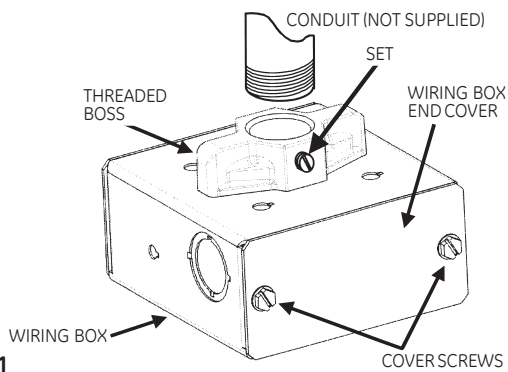

Figure 1
1. Remove the Wire Box End Cover by removing the two (2) screws as shown in Figure 1.